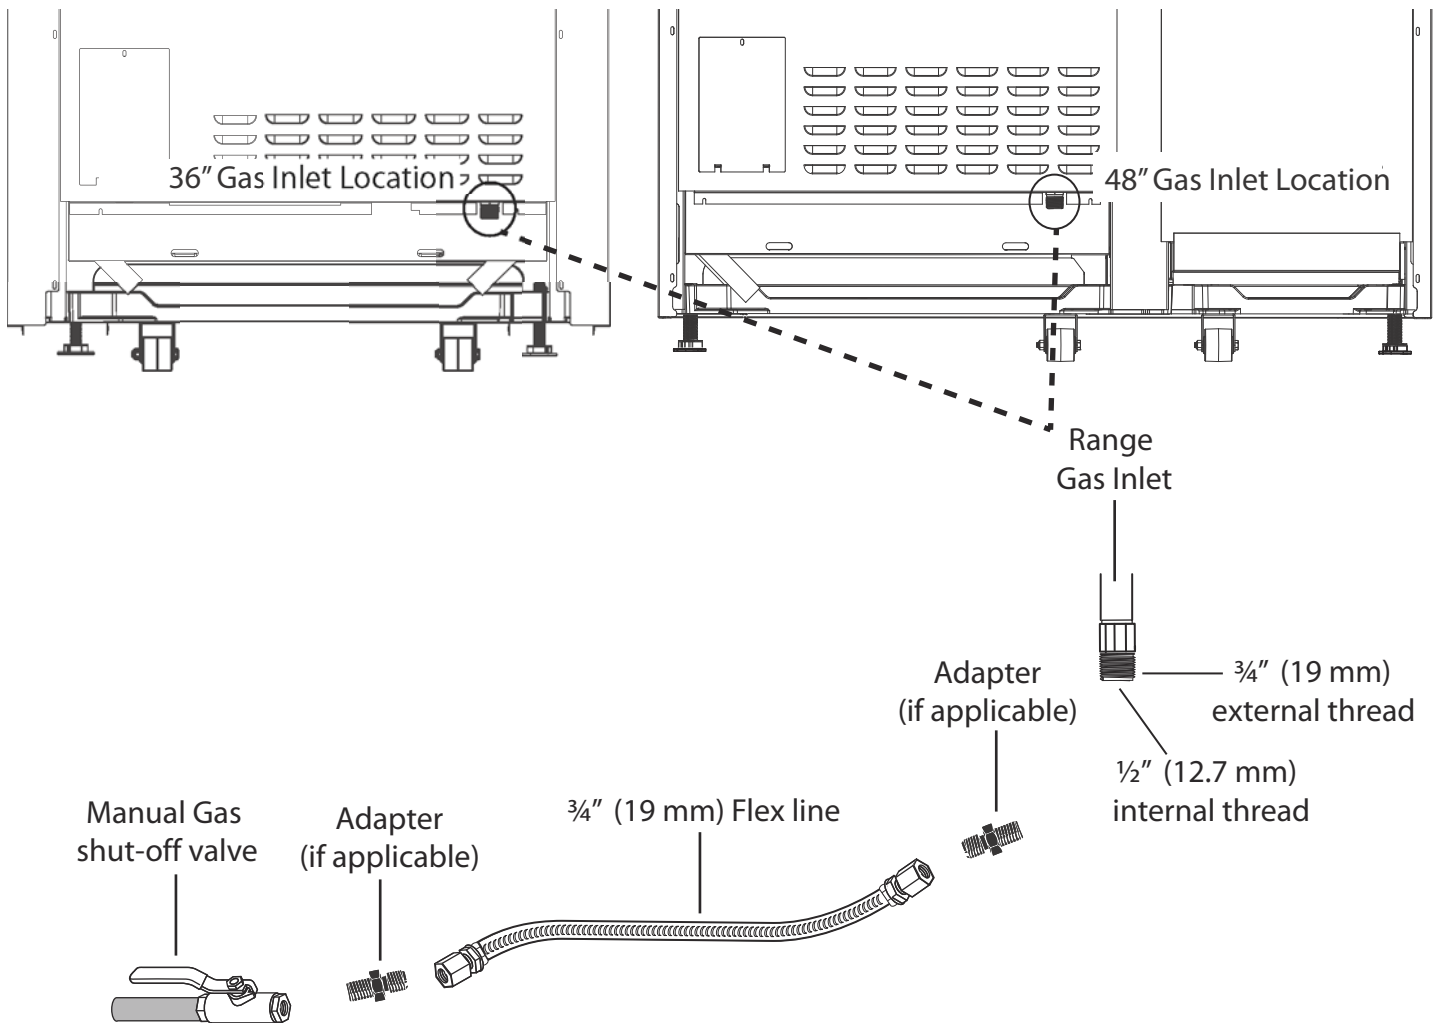

Figure 15: Gas Supply Connection
1. A manual gas shut-off valve (*Figure 15*) must be installed external to the appliance, in a location accessible from the front, for the purpose of shutting off the gas supply. The supply line must not interfere with the back of the unit. Make sure the gas supply is turned off at the manual shut-off valve before connecting the appliance.
2. Locate the gas supply line connection at the back of the range (*Figure 15*).
3. Use a 3/4" (19 mm) flex line to connect between the gas supply and the appliance gas inlet. The appliance gas inlet connection is 1/2" (13 mm) NPT (*Figure 15*).